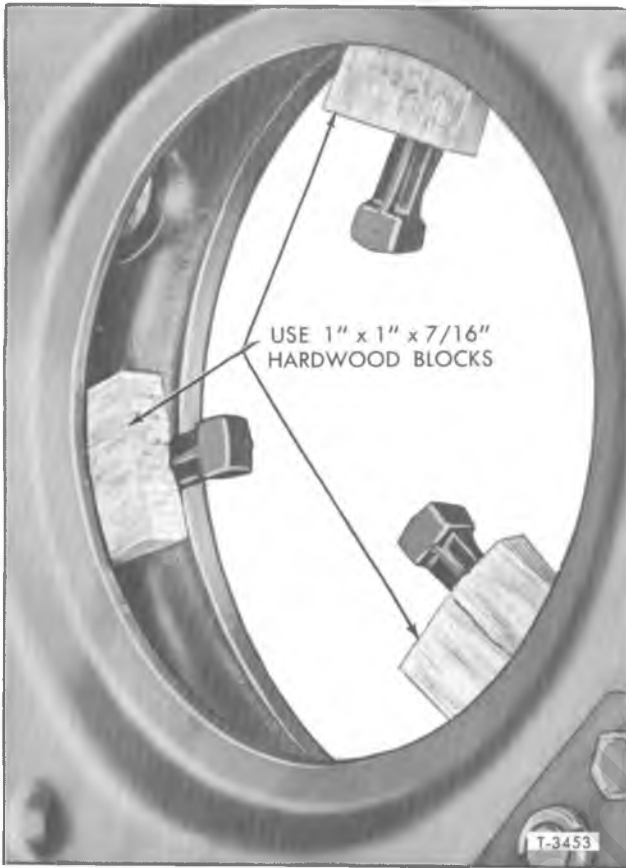

Figure 1—Use of Blocks Between Release Levers and Cover
**IMPORTANT:** To facilitate removal of the Long or Borg and Beck clutch cover assemblies, install three hardwood wedges between the release levers and cover as shown in figure 1.
1. Be sure the hardwood blocks (fig. 1) or hold-down bolts and washers (fig. 2) are installed in the clutch cover assembly.